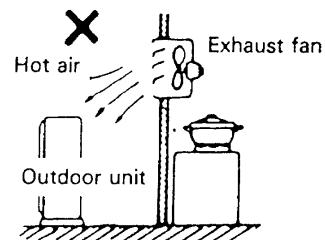

Fig. 3
**AVOID:** • heat source, exhaust fan, etc. Fig. 3